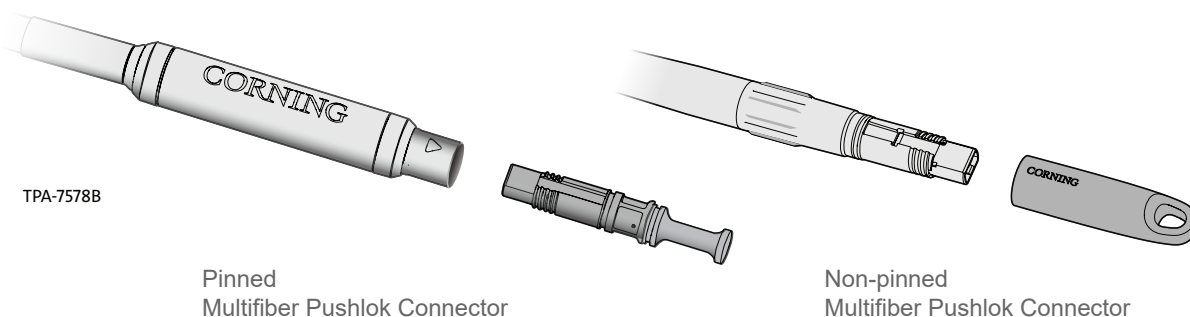

Figure 1
- 1.2 Pinned and non-pinned Pushlok connectors are used to create multifiber connections in locations that need environmental protection (Figure 1).